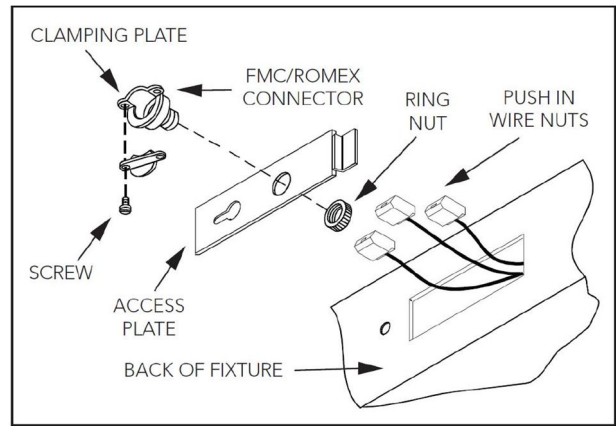

Figure 2
1. If the electrical feed is on the left side (receptacle side) of the fixture, proceed to step 2. If the electrical feed is to the rear, refer to Figure 2 and perform the following:
- a. Remove the access plate from the back of the fixture housing by loosening the screw that secures it. (Figure 2).